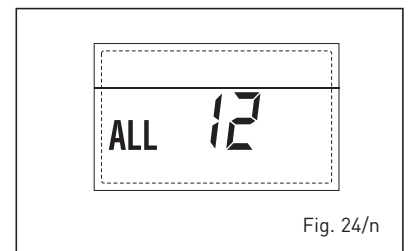

Fig. 24/n
– SAFETY THERMOSTAT INTERVENTION FIRST MIXED ZONE "ALL 20" (fig. 24/p)